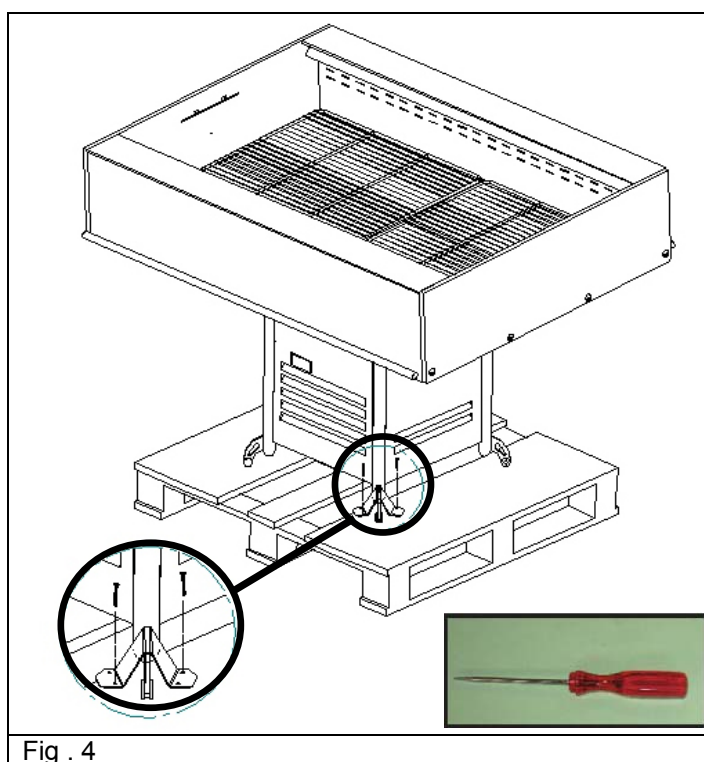

Fig . 4
- To remove the cabinet from the pallet, take off the clamps at the 4 support feet (fig. 4).